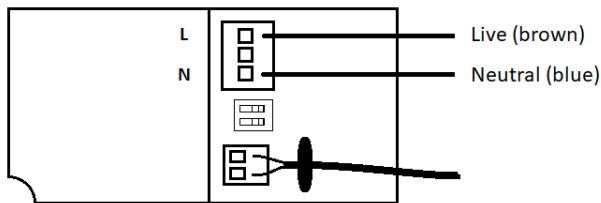

Fig. 2
- Connect the driver to the mains supply ensuring the correct polarity is observed (see Fig. 2): L – Live (brown), N – Neutral (blue). The earth terminal is non-functional and only provided for convenience.